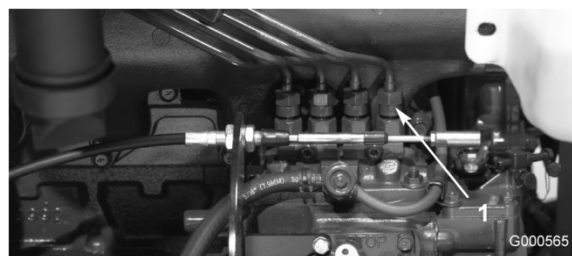

Figure 38
1. Loosen the pipe connection to the No. 1 injector nozzle and holder assembly at the injection pump (Figure 38).